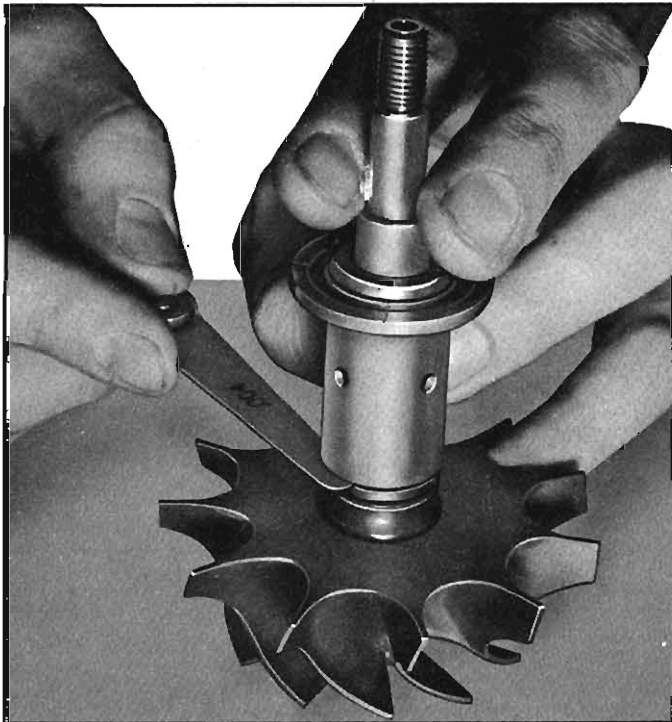

Fig. 9-48—Measuring Bearing-to-Shaft End Play
- b. Hold the mating ring against the shoulder on the turbine shaft, then hold the bearing up against the mating ring and measure the clearance between the bearing and lower shoulder of the shaft using a feeler gauge (fig. 9-48).